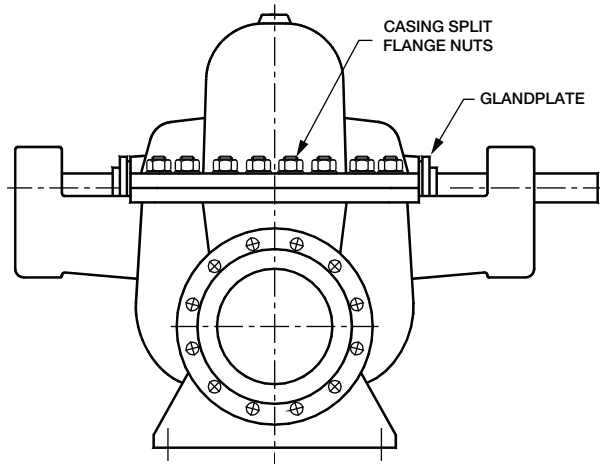

Figure 7
- 2) Withdraw the two glands (for packed gland pumps) or mechanical seal glandplates, if fitted, by removal of their retaining nuts. Slide the glands or glandplates along the shaft toward each bearing. (See Figure 7.)